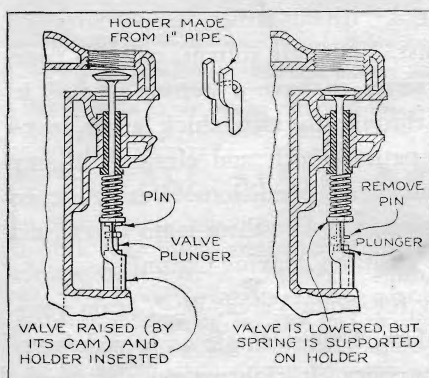

Fig. 2. A piece of iron pipe cut out on two sides is handy tool to hold up valve spring.
**FIG. 2** shows a novel tool designed to facilitate quick valve grinding jobs. Instead of using a regular type of valve tool to lift the valve and thus permit the removal of the retaining pin and the spring, this tool is slipped in under the valve as shown while the latter is in the fully open position. Cranking the car one full turn will drop the valve plunger leaving the spring supported in the up position by the device. The pin can be removed and the valve ground without disturbing the spring, washer and so on.